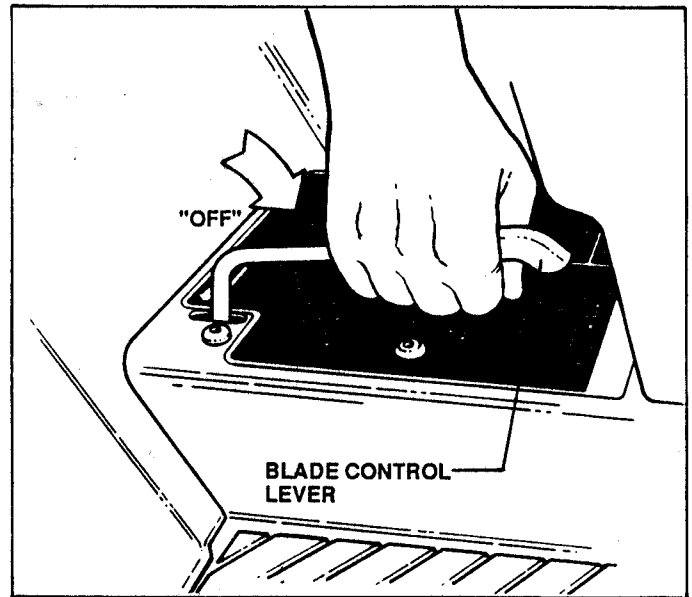
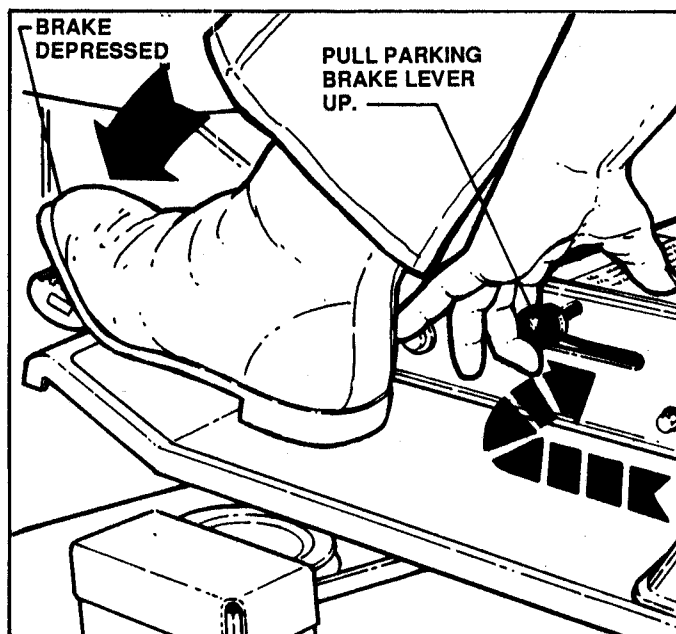

FIGURE 4
FIGURE 7
MOWER BLADE: STOP MOWER BLADE by pushing BLADE CONTROL lever downward to "OFF". See Figure 4.
1. PUSH BLADE CONTROL LEVER downward to "OFF" position (Fig. 4) and fully depress the CLUTCH/BRAKE pedal (Fig. 7), so that Safety Interlock System will allow engine to start.
Depress CLUTCH/BRAKE PEDAL. Pull PARKING BRAKE LEVER "UP" while releasing pedal. See Figure 7.